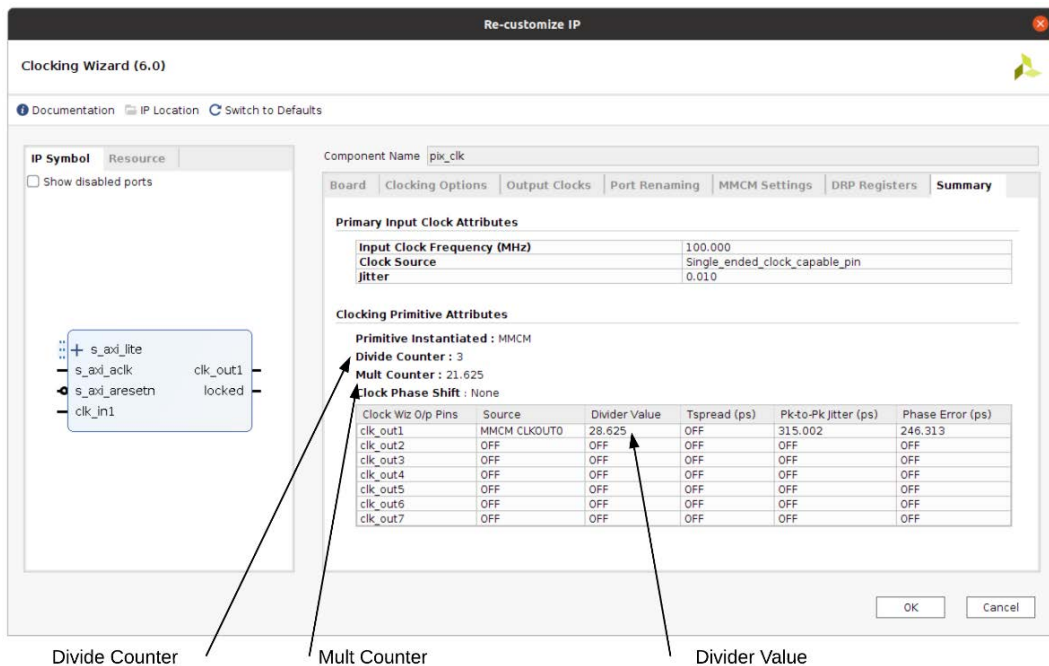

Figure 9.5 – Extracting reconfiguration parameters
Adding dynamic reconfiguration exposes an AXI Lite interface in the clocking wizard that we can use to reconfigure the PLL on the fly. The registers we need to focus on can be found in the clocking wizard drive 6.0 at https://www.xilinx.com/support/documentation/ip_documentation/clk_wiz/v6_0/pg065-clk-wiz.pdf. We'll only be reconfiguring `clk0`. In the following screenshot, I've extracted the information we need from the clocking wizard. In *Figure 9.5*, you can see how to extract these numbers yourself:
- **Divide Counter:** In *Figure 9.5*, for 25.18 MHz, this is 9.